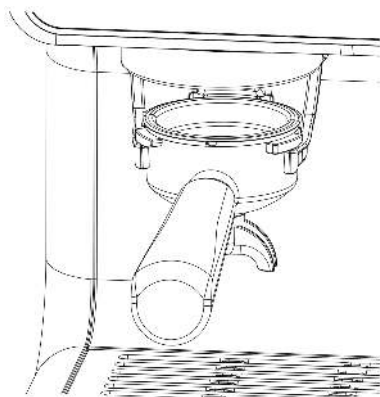

Fig. 5:
5. As shown in Fig. 5, place the Portafilter into the powder-receiving bracket.